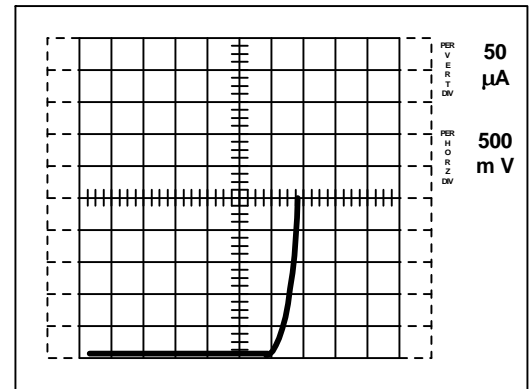

Figure 4. Gate-source threshold voltage
10. Connect the device using the LEFT/ RIGHT switch. Increase the VARIABLE COLLECTOR VOLTAGE until the drain current reaches 250 microA as indicated by the trace on the screen. Read the voltage on the horizontal center line (since this line corresponds to $I_D = 250$ microA) (see Figure 4).